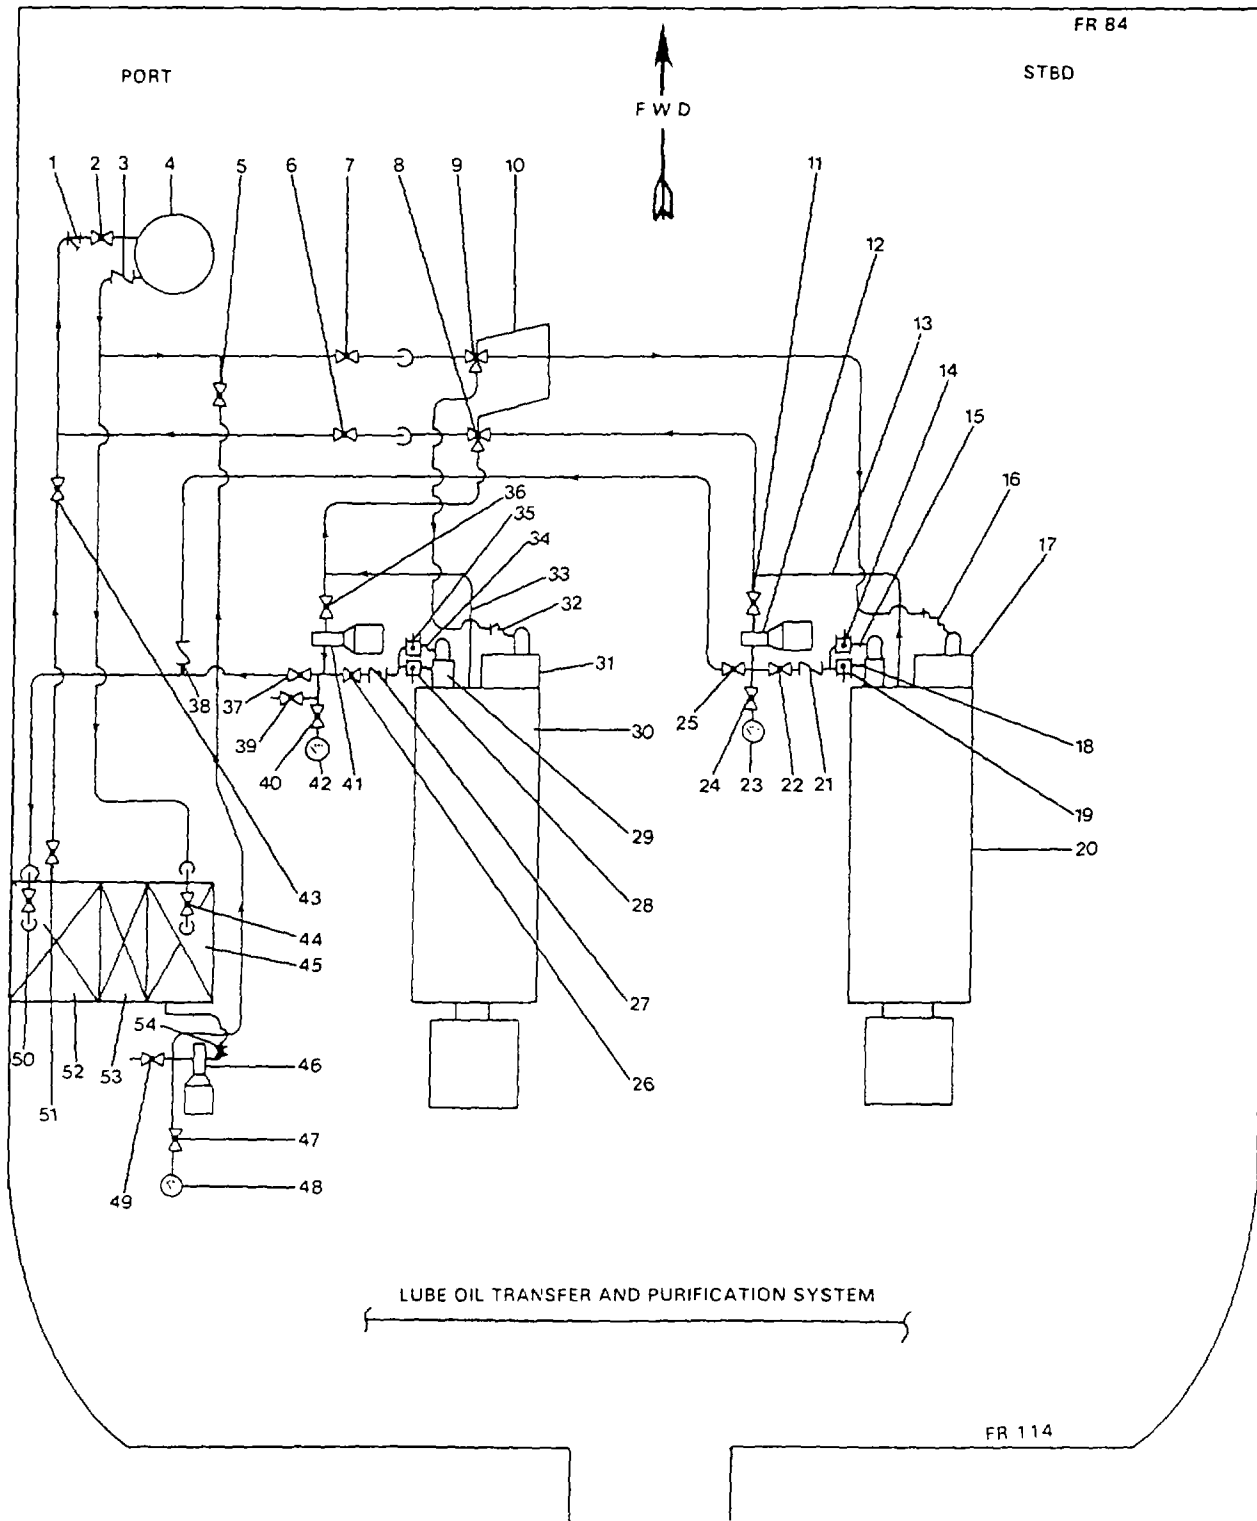

FIGURE 2-146. Lube Oil Transfer Piping System (Sheet 1 of 2).
- j. Depress start switch (67 or 71, FIGURE 2-103, Sheet 4 of 6) and start pump (12 or 41, FIGURE 2-146).